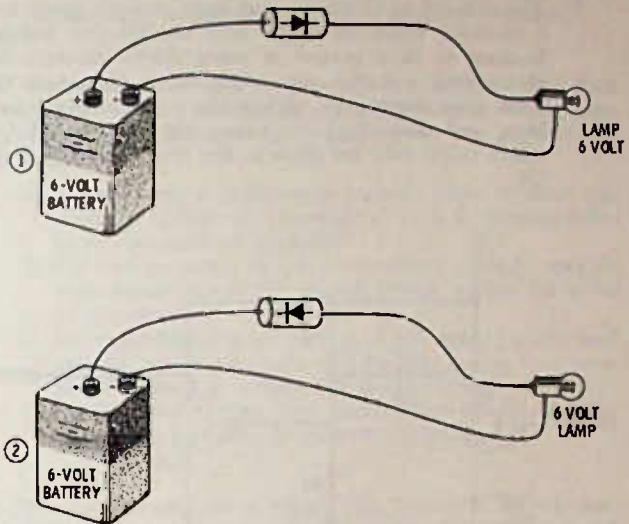

Fig. 15-10. Diagram for Questions 11, 12, and 13.
11. A diode has the ability to pass current easily in one direction but not in the other. This ability can be noted by measuring a diode with an ohmmeter and then reversing the leads—one reading will be a high resistance and the other a low resistance if the diode is good. In Fig. 15-10,
12. If the same diode is used in both circuits of Fig. 15-10, first in circuit No. 1 and then in circuit No. 2, and the lamp lights in both cases,
13. Assuming the diode you were using in Fig. 15-10 was made to pass no more than 25 milliamperes of current and the lamp draws 300 mA at 6 volts,